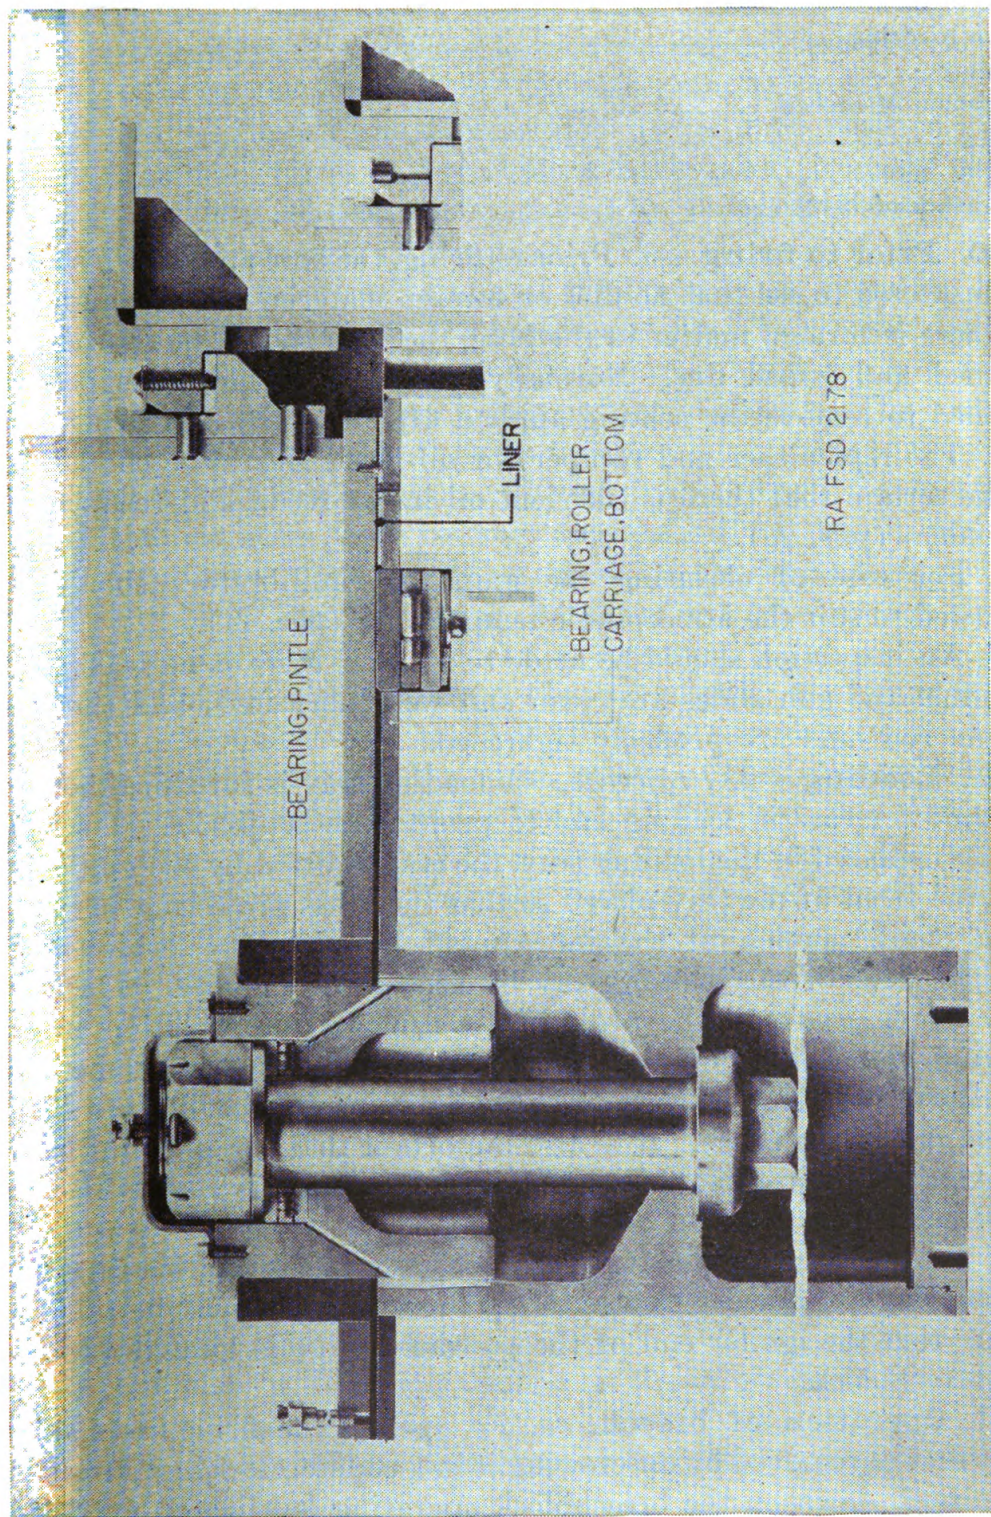

FIGURE 23.—Pintle bearing.
**11. Top carriage.**—The top carriage forms a connection between the cradle and the bottom carriage. The trunnion bearing of the top carriage is machined to seat the right and left trunnion caps, which house the trunnions of the cradle. The trunnions are supported in roller bearings and form the fulcrum of the movement of the gun in elevation. The lower portion of the top carriage is seated in and rotates on the pintle bearing of the bottom carriage, which forms the pivot for the movement of the gun in traverse (fig. 23). The pintle of the top carriage fits into a bushing in the bottom carriage and is held in place by a special antifriction bolt and nut arrangement. The top carriage is supported on a roller bearing housed in the roller path of the bottom carriage and by a circular liner of larger diameter secured to the bottom carriage. Belleville springs assembled under the roller bearings are provided to raise the top carriage slightly for ease in traversing. When the gun is fired the Belleville springs are compressed and the top carriage rests on the liner.